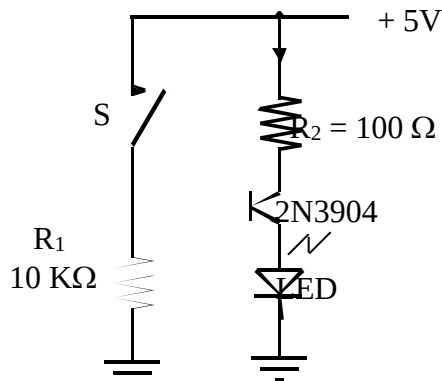

Figure 3. A circuit for drive an LED
- Build the circuit in figure 3